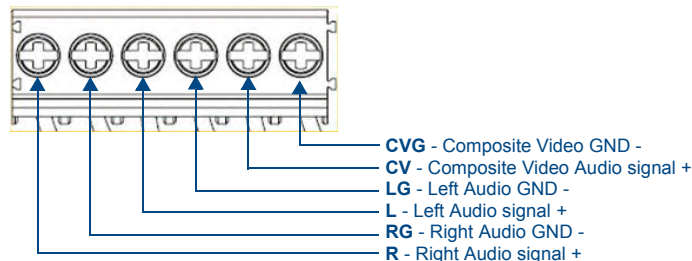

FIG. 5 HPX-AV100-CS+A Composite AV Module - Wiring Schematic
3. Secure each connection using the terminal screw, according to the schematic provided in FIG. 5: